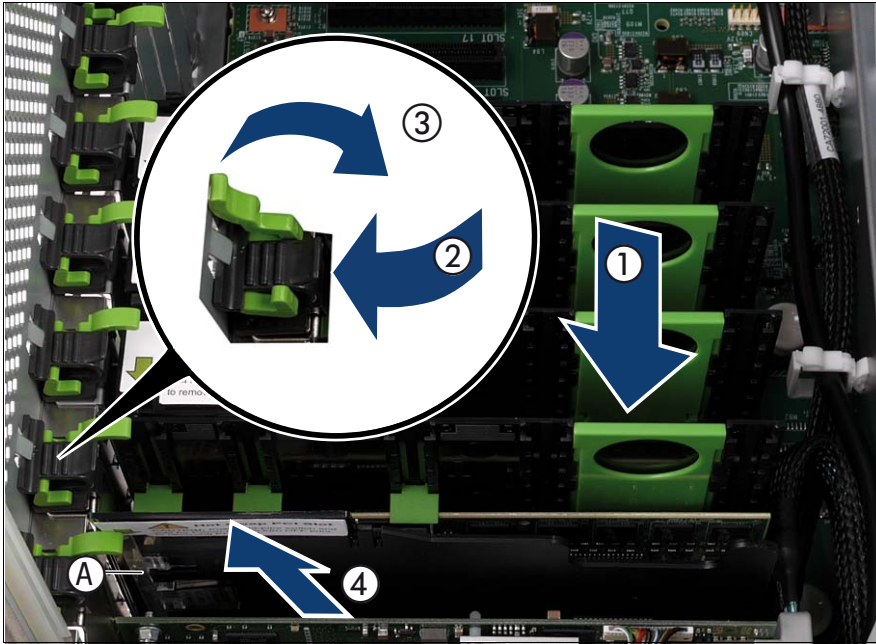

Figure 69: Inserting the expansion card in the slot
- ▶ Activate the expansion card using either the related PCI hot-plug software or by pressing the light-pipe switch, see A in Figure 69.